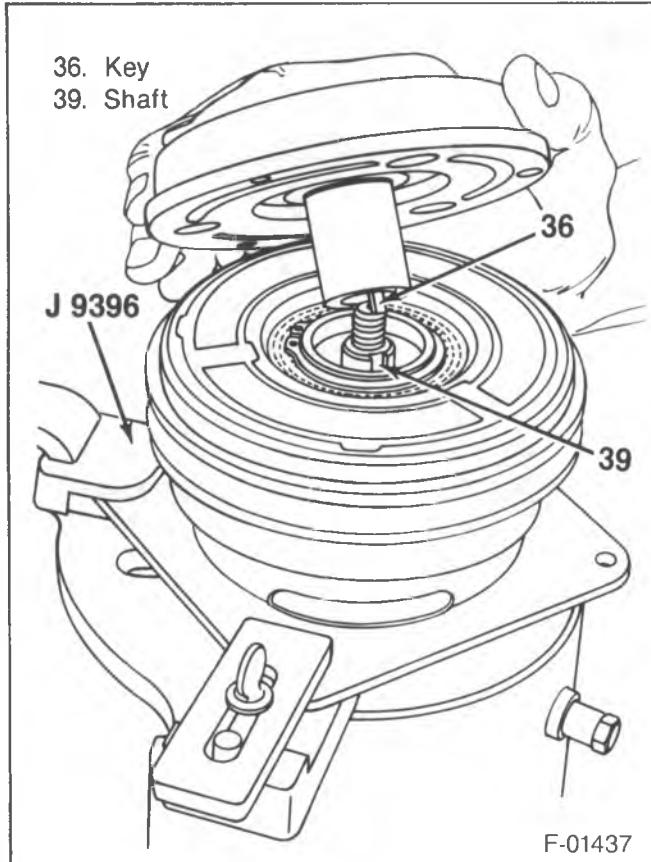
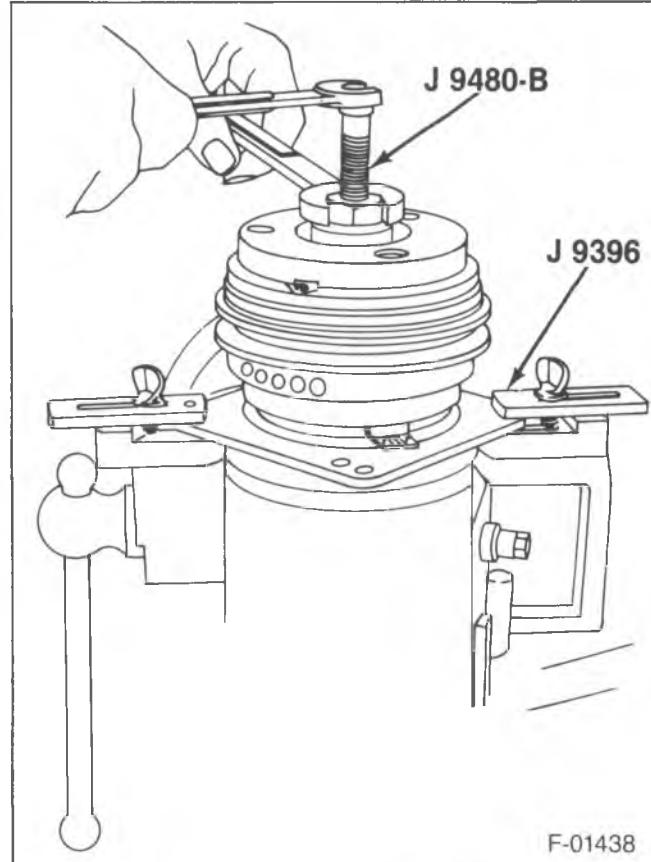

Figure 4—Aligning the Drive Plate Key
Figure 5—Installing the Drive Plate
- Allow the shaft key (36) to extend 4.5 mm ($\frac{3}{16}$ -inch) out of the bottom of the hub keyway (figure 4).
- The shaft key (36) is curved to give an interference fit in the groove.
- Do not drive or pound on the clutch hub or the shaft (39). Internal damage to the compressor may result.
2. Clutch plate and hub assembly (2) (figure 4).
- Install the clutch plate and hub assembly (2) over the compressor shaft lining up the key slot on the hub with the keyway slot in the shaft.
- Install J 9480-B on the threaded end of the shaft (figure 5).
- Back off J 9480-B body to allow the center screw to be threaded against the end of the compressor shaft (39).
- Hold the center screw with a wrench and tighten the hex portion of J 9480-B body while pressing the hub onto the shaft (39). After tightening the body several turns, remove J 9480-B and check that the shaft key (36) is properly in place in the keyway.
- Air gap between contact surfaces of the clutch plate and hub assembly (2) and the pulley (6) should be 0.56–1.34 mm (0.022–0.057-inch).